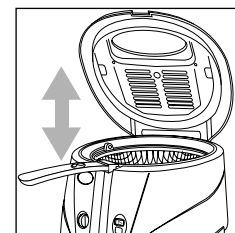

fig. 3
- Remove the basket by pulling it upwards (fig.3).
2. Put the basket into the fryer bowl in a raised position (fig.3) and close the lid by pressing lightly down upon it until the hooks click. Always close the lid before lowering the basket in order to avoid hot oil from splashing out.